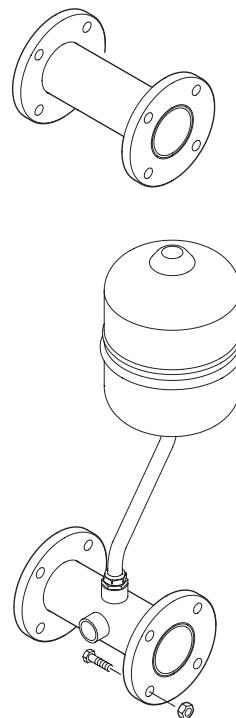

Fig. 6
1.10 LOW LOSS HEADER CONNECTION KIT (fig. 6)